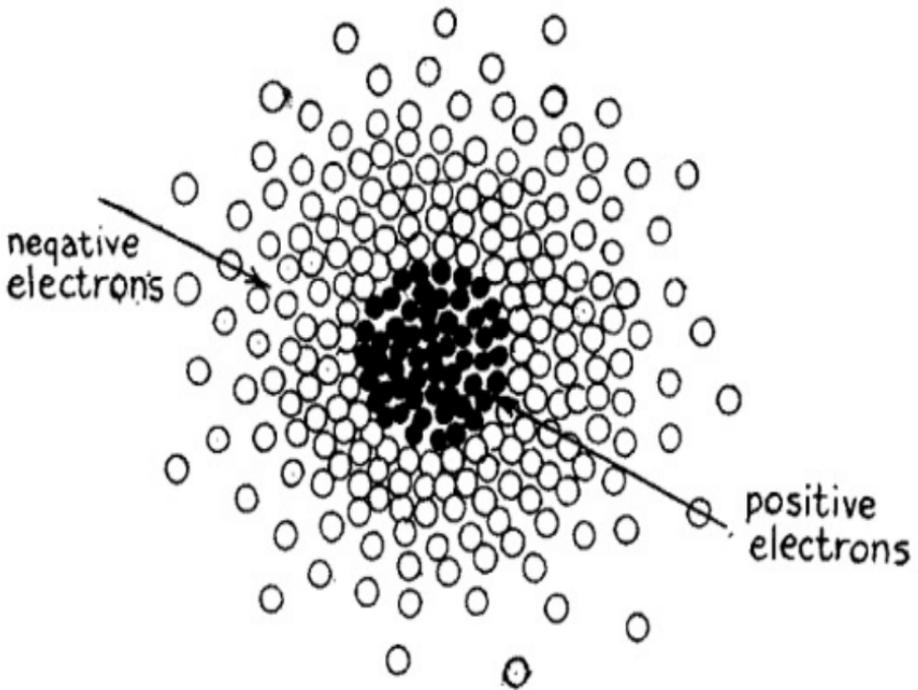

FIG. 69.—Schematic Diagram of an Atom.
*What Electrons Are.*--Science teaches us that masses of matter are made up of *molecules*, that each of these is made up of *atoms*, and each of these, in turn, is made up of a central core of positive particles of electricity surrounded by negative particles of electricity as shown in the schematic diagram, *Fig. 69*. The little black circles inside the large circle represent *positive particles of electricity* and the little white circles outside of the large circle represent *negative particles of electricity*, or *electrons* as they are called.